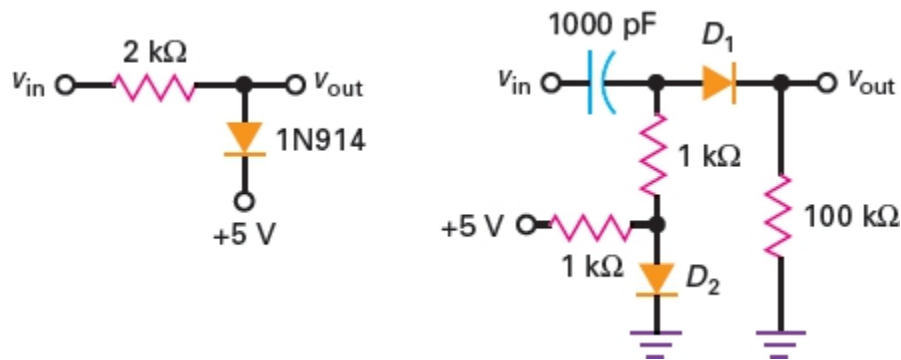

Figure-77 (a) diode clamp protects above 5.7 V; (b) diode D_2 biases D_1 to remove off set voltage
- Figure-77 a shows a biased diode clamp. It can be used to protect sensitive circuits from excessive input voltages. The bias level is shown as +5 V.